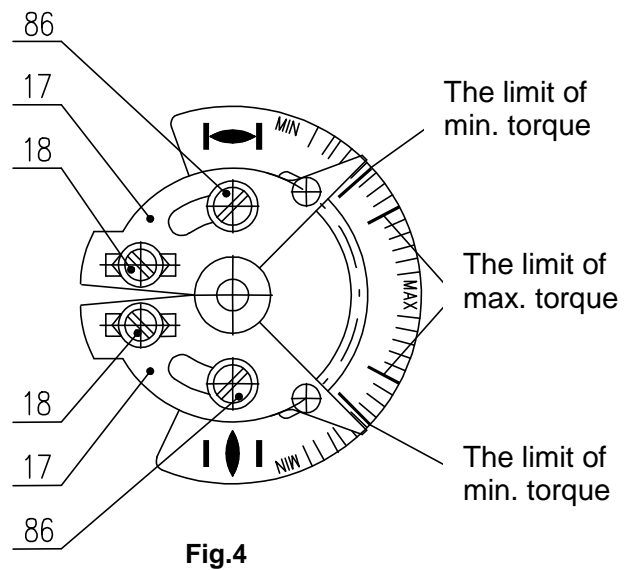
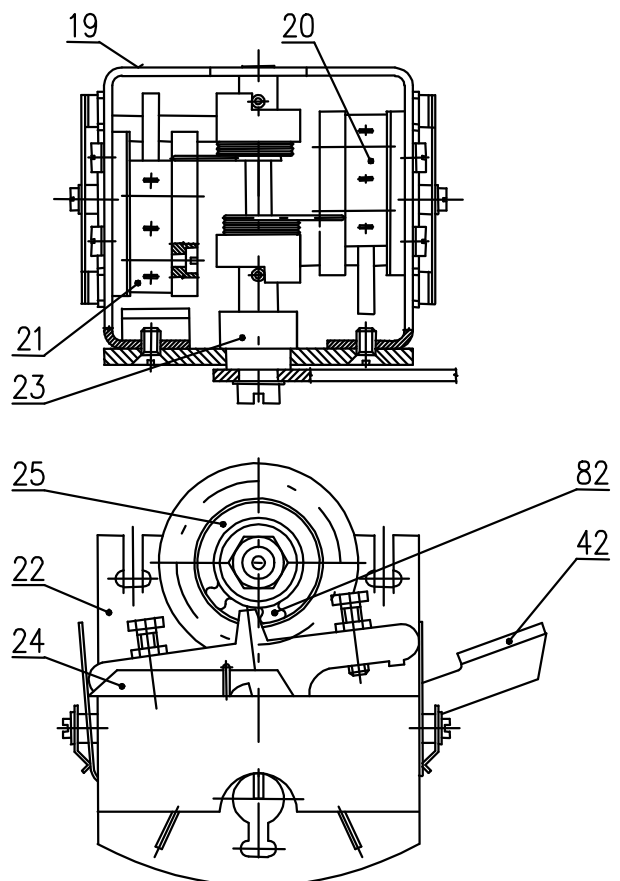

Fig.4
Fig.5
**Check of torque switches (Fig.4,5).** When the actuator moves towards "close" and at torque switches connection to "torque switching-off" should be contacts of switch S2 switched over by pressing of disconnecting bell (24)(Fig.5) of relevant switch. If the connection is properly performed, the actuator must stop. When the torque switches are connected for "signalization" only, signalization on control box panel will be activated.
### 4.1 The torque unit adjustment (Fig. 4 and 5)
It is only possible to set up the switching – off torque using the torque measuring equipment and only within the particular range with application of rough adjustment (17) and soft adjustment (18), Figure 4, according to the Version Table.
It is only possible to readjust the electric actuator using the segments (17), Fig. 4, within the marked MIN - MAX limit on the torque wrench and within the particular electric actuator torque range.
**Torque unit (Fig. 4 and 5)** is composed of three functional sub-units:
- torque disk (**Fig. 4**)
- torque unit (**Fig. 5**)
- locking mechanism (82) (**Fig. 5**)
**Torque disk (Fig. 4)** is assembled on torque shaft (45) discharged from power transmission (**Fig.2**). Steer angle of torque disk is proportional to torque moment of output shaft (3) of electric actuator. Its magnitude can be adjusted by segments (17) and by shifting of backstops (18). Achieved torque moment value is from torque disk transferred on torque unit (9) by means of torque lever (42) (**Fig.5**).
**Torque unit (Fig.5)** consists of a carrier, on which are displaced switches S1 (20) and S2 (21). On the shaft (23) are mounted disconnecting levers (24), keeping switches pressed by spring tensions until a moment when the shaft is turned out of the mesh of torque disconnection.
*Locking mechanism (82) (Fig.5)* provides locking of torque disconnection usually to 1 or 2 turns after reversing of electric actuator. After elapsing of adjusted revolution will torque unit acquire its original function.